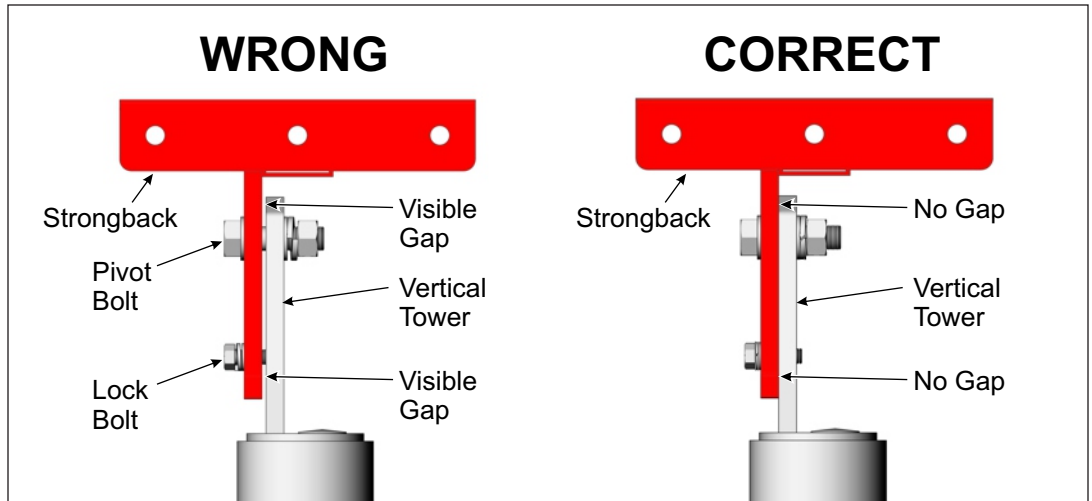

Figure 2-3: Tighten and Torque the Pivot Bolt
- E. Tighten the Pivot Bolt. The Pivot Bolt cannot be left loose - the Mounting Sleeve Vertical Tower must be firmly clamped to the side of the Strongback eliminating any gaps between the Vertical Tower and the Strongback. **Torque to 75-85 ft.-lbs.** (See Figure 2-3)